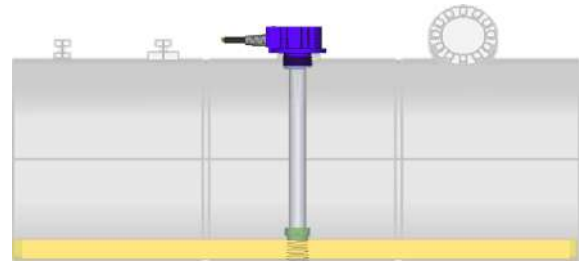

Figure 17: Top Mounting after Installation
- Now, we install Capvel-FUEL sensor as shown in Figure 17.